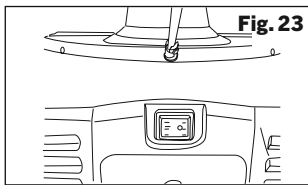

Fig. 23
4. The LED light can be used to illuminate the surface in front in the dark. To use the light, turn on the light switch located on the back side of the snow blower (Fig. 23).